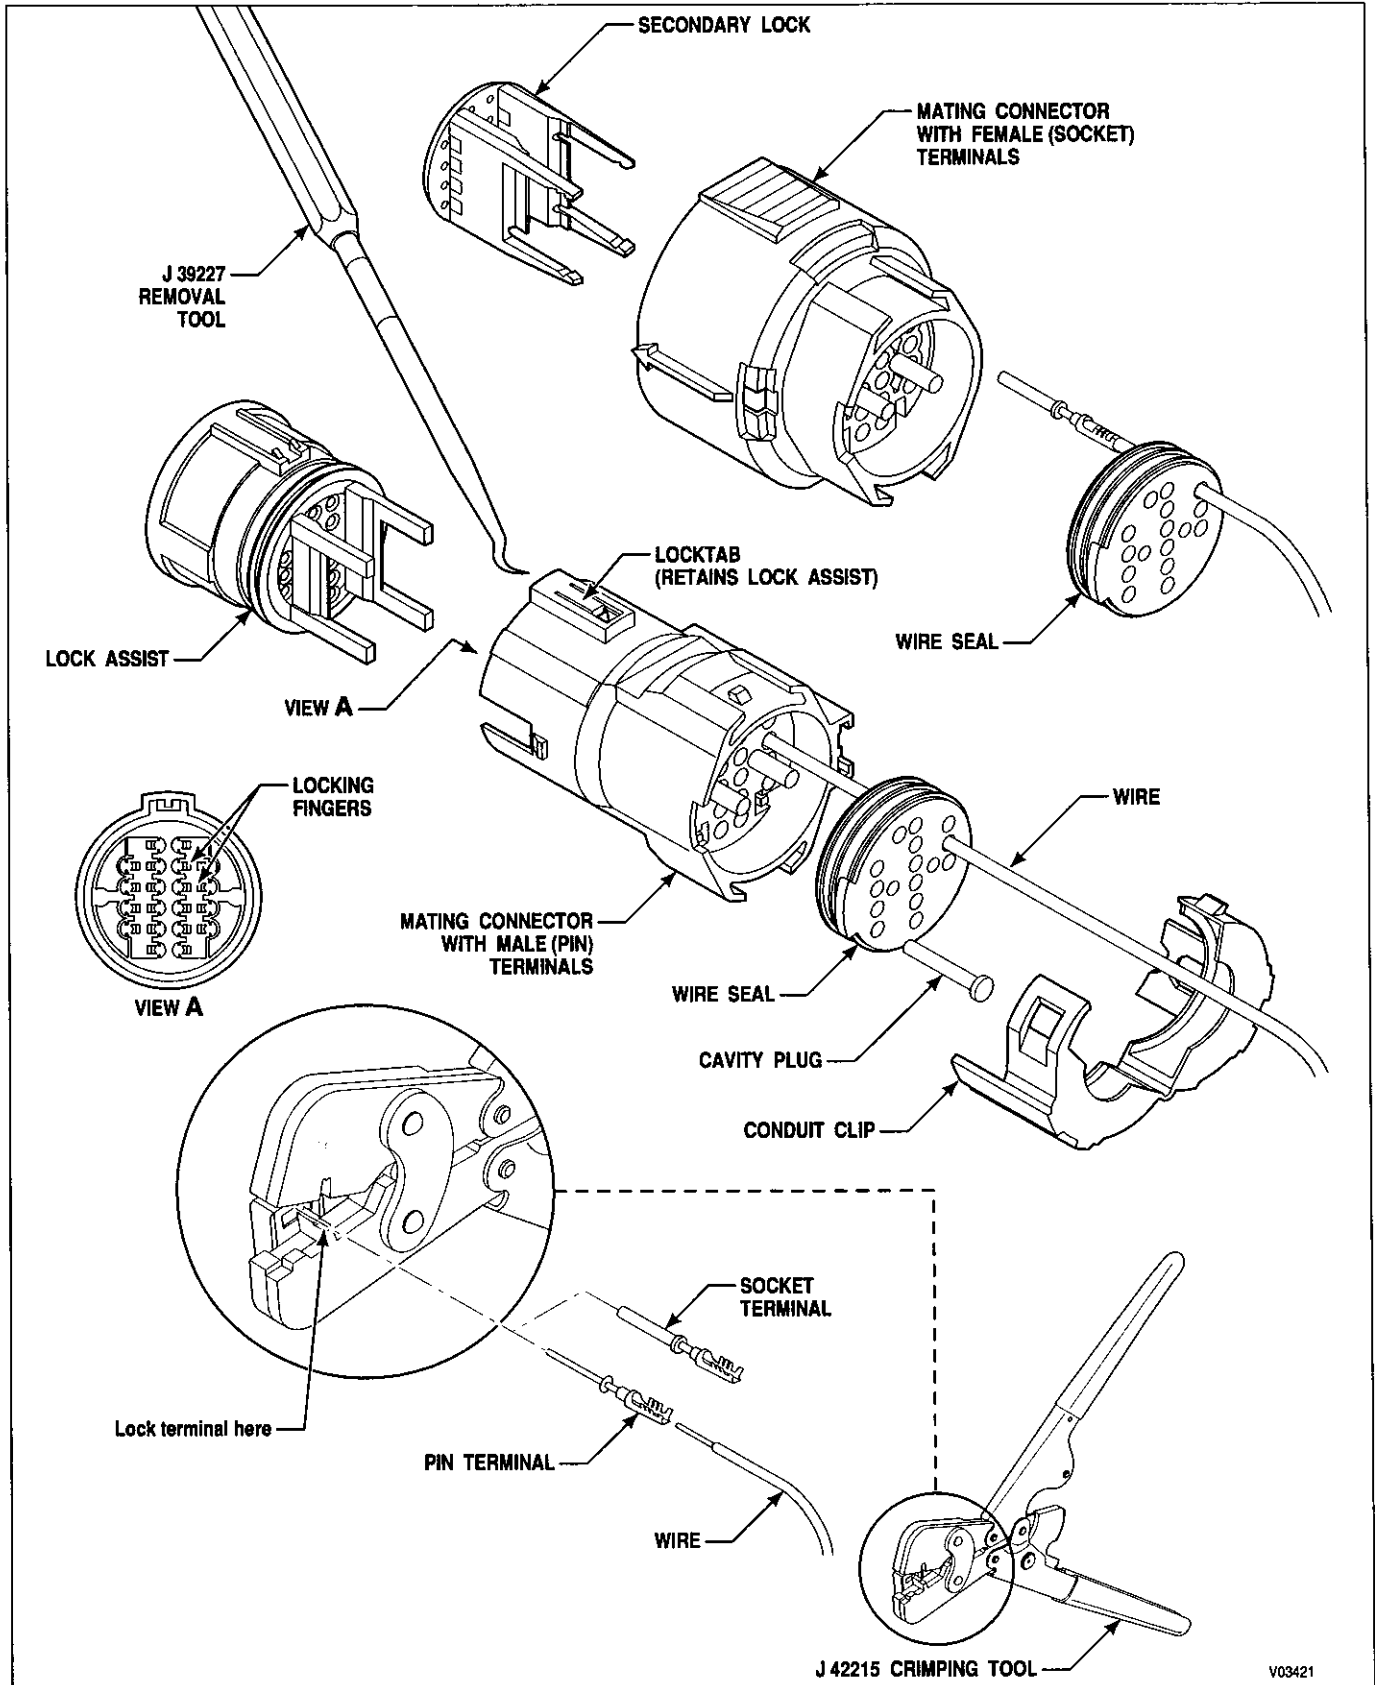

Figure E-1B. Delphi-Packard Micro Pack Connector (VIWV, VIWS, Shift Selector)
2. VIWV and VIWS Harness Connectors and Shift Selector (Device) Connectors (*Figure E-1B*)
3. VIWV and VIWS (Device) Connectors and Shift Selector Harness Connectors (*Figure E-1B*)
4. Complete terminal installation for VIW and Shift Selector Connectors as follows: (*Figure E-1B*)